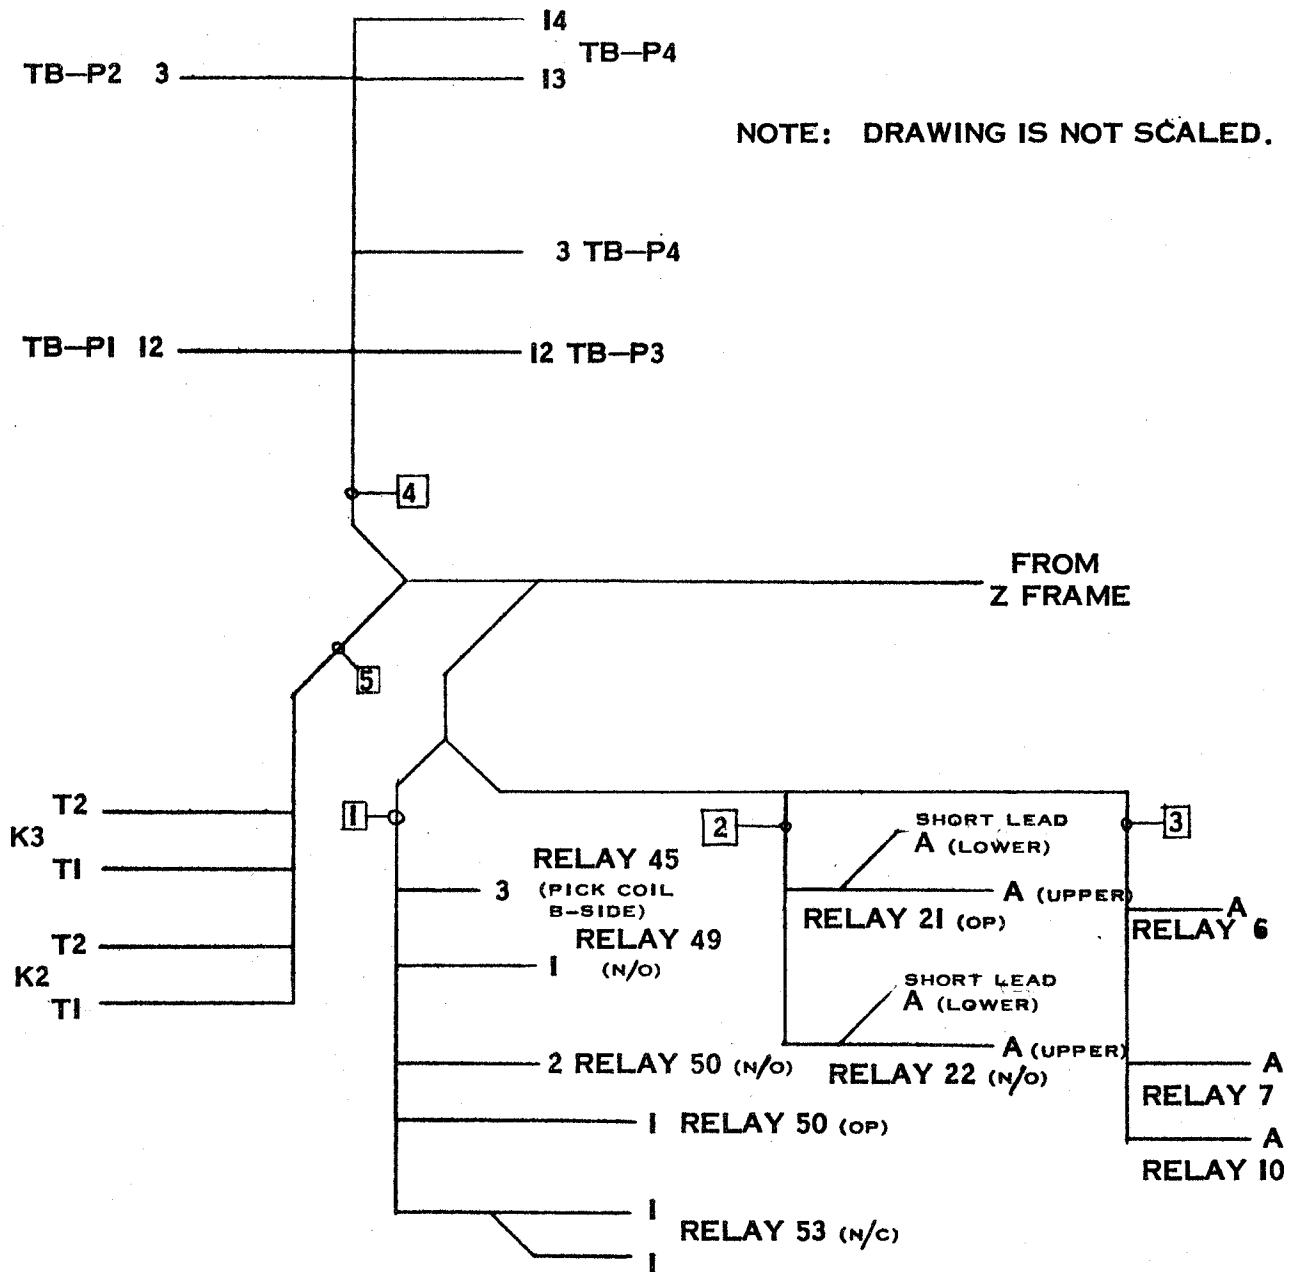

FIGURE B-2 CABLE ASSEMBLY 383635, 1411A CONNECTIONS ONLY
- D. The remaining portion of the cable assembly is routed from 1411Z to 1411A across the top of the frames. Connect the leads of the cable assembly to their destination using Figure B-2 and Table B-1 for reference. The cable branch numbers have been arbitrarily assigned; the sequence generally begins with the shortest branch with respect to the previous frame.